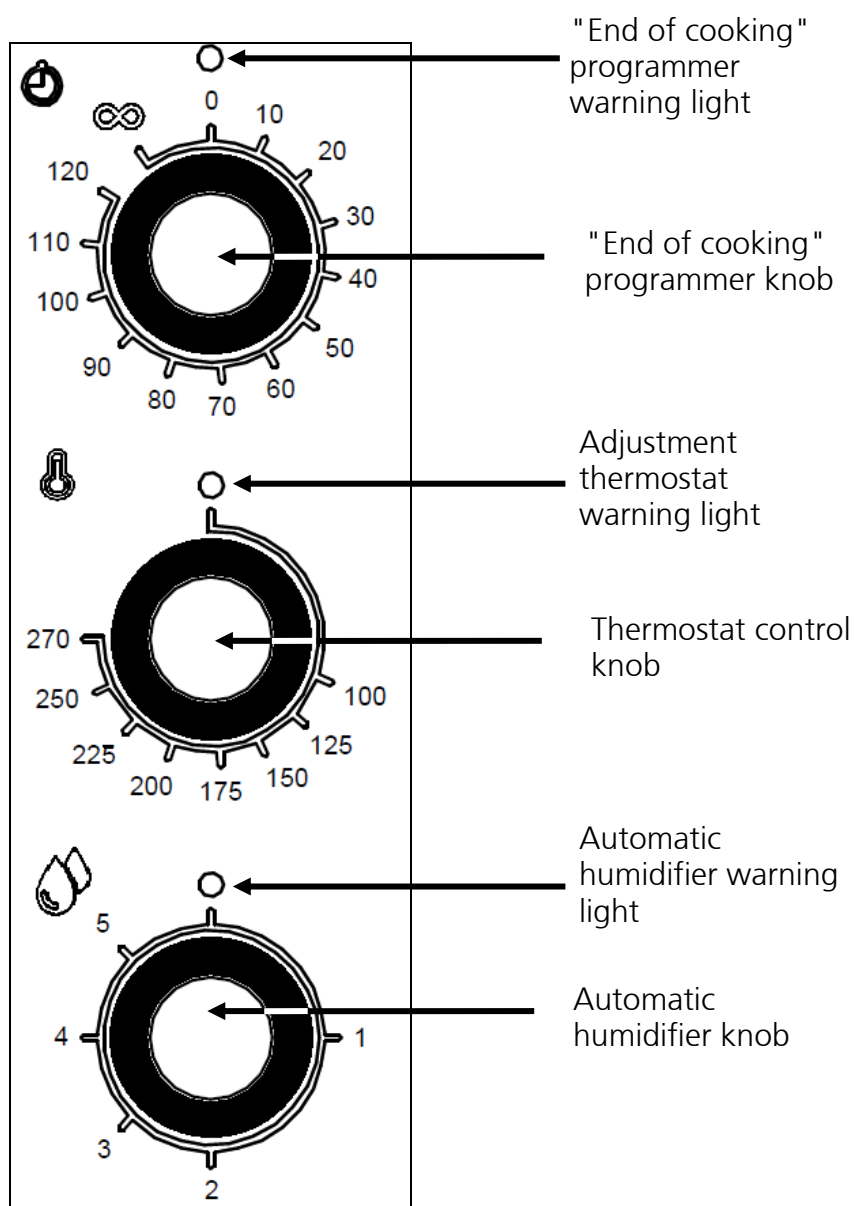

Fig.1
**Programming cooking time** - The oven is switched on by turning the programmer knob (Fig.1) to the symbol (continuous operation) or to the selected cooking time (up to 120 minutes); in the latter case the end of cooking is signalled by the oven switching off automatically.
**Programming cooking temperature** - Turn the thermostat knob (Fig.1) to adjust the temperature selected for cooking.
**Programming humidity/steam quantity** - To generate humidity/steam during the operation of the oven (hot cooking chamber), turn the knob of the automatic humidifier (Fig.1) to the desired value (from 1 to 5). By turning the knob to the • (off) position the humidifier stops working.
**"End of cooking" programmer warning light** - The green light of the programmer (Fig.1) indicates that the oven is working and that the cooking time is active.
**Control thermostat warning light** - The orange warning light of the control thermostat (Fig.1) turns off every time the programmed temperature is reached in the cooking chamber. It switches on again when the thermostat is triggered to re-establish this temperature.
**Automatic humidifier warning light** - The orange warning light of the automatic humidifier (Fig.1) indicates that the water solenoid valve is operating and therefore humidity/steam is being produced in the cooking chamber.